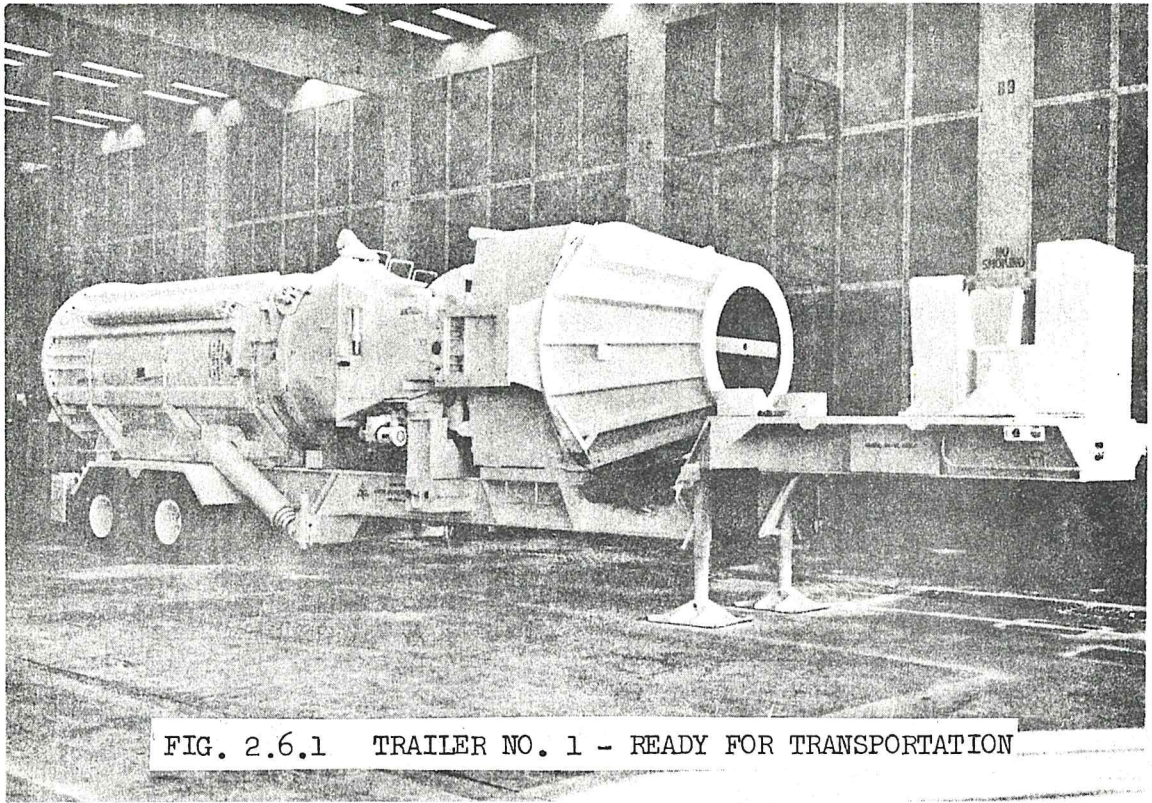

FIG. 2.6.1 TRAILER NO. 1 - READY FOR TRANSPORTATION
- (2) Open hydraulic motor manual drive by-pass valve
- (3) Disengage the elevation brake as follows:
- (4) Turn on manual drive gear box motor switch until the RF box has rotated down 90° make sure the feed cone is properly seated on the trailer and turn off gear box motor.
- (5) Close manual drive by pass valve"
- (6) Engage the elevation brakes by turning the manual brake control valve handle to the left and hold until the brake actuating cylinders are retracted all the way in.
- (v) Disassemble and retract all trailer jacks and place Jack pads on trailer. Figure 2.6.1, 2.6.2.